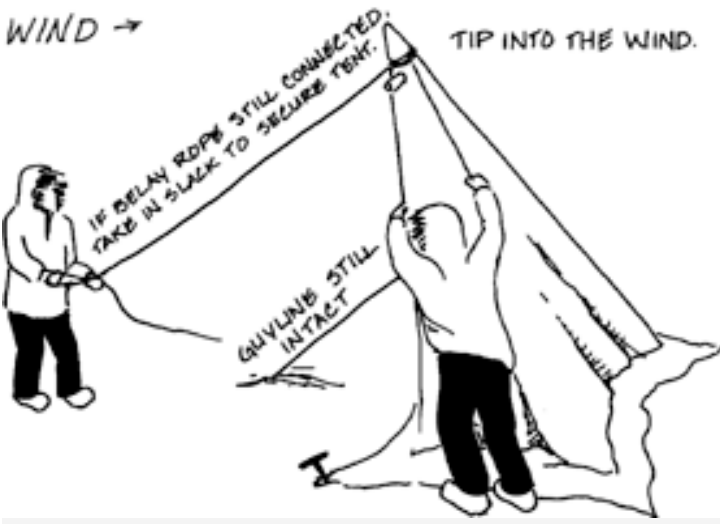

Figure 12-5
3. Tip the tent into the wind, collapsing the lee-ward poles. If the belay rope is still connected to the apex, take in slack to secure the tent. Lay the tent flat on the ground apex into the wind. Disconnect all guylines and neatly wind them up and lay them on the tent. (See figure 12-5).